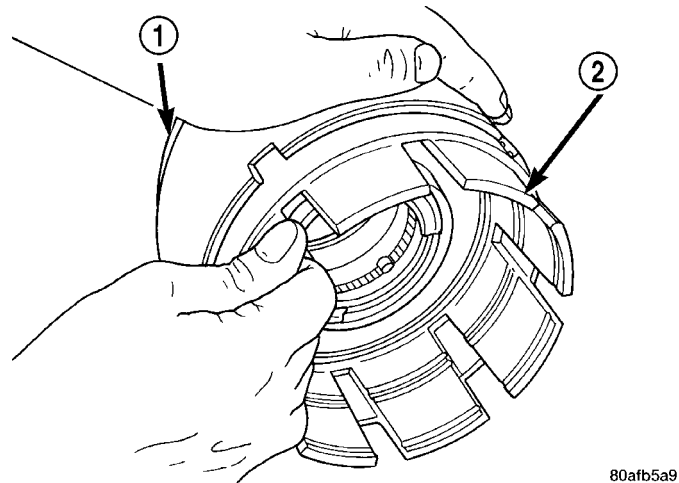

Fig. 232 Pull Retainer from Piston
(17) Separate clutch retainer from OD/Reverse piston (Fig. 232).